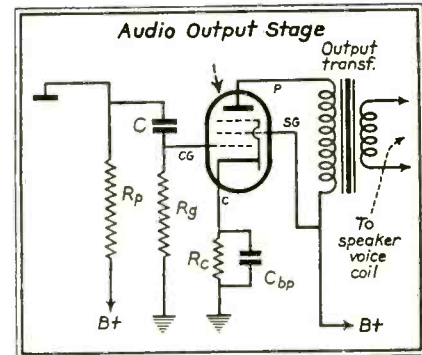

Fig. 1. A popular method of obtaining bias for the output stage is by means of a self-bias resistor connected in series with the cathode.
Audio amplifiers are generally well understood, although the reasons for the choice of certain values of resistance or capacity in coupling the audio stages are not always clear. In Fig. 1 the plate resistance for the triode amplifier tube, which is generally combined with the second-detector tube, is designated as  $R_p$ . The coupling condenser  $C$  and the grid resistor  $R_g$  are drawn in a rather unusual arrangement, primarily to show that these two components in series form a parallel circuit across the plate load resistance  $R_p$ . The a-c resistance of  $C$  and  $R_g$  together are almost always greater than  $R_p$ . Values for  $C$  range between 0.006 and 0.02 mfd in different makes of receivers;  $R_g$  from 100,000-ohms to 3 megohms in different models. The condenser  $C$  and the resistor  $R_g$  are paired and the choice of the value of one more or less designates the value of the other.
Figs. 1 to 4 inclusive show typical output stages. In Fig. 1, bias for the
trations this month do not always permit the large percentage of variation possible in other parts of receiver. For example, in the simple output stage shown in Fig. 1 any change larger than 20%, in the value of the coupling condenser (C) will cause a corresponding change in the frequency response of the receiver, unless a similar change is made in the accompanying grid resistor ( $R_g$ ) in the opposite direction. Any great change in both of these components will alter the plate load of the previous stage, since they are connected in parallel across it. For this reason changes should be restricted to within 20 percent of the value specified.